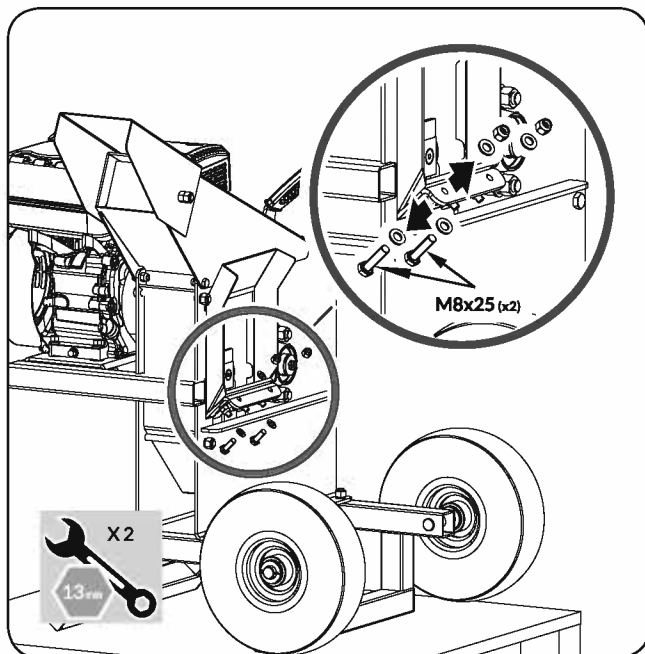

Figure 6
4. Remove the M8X25 bolts, flat washers, and nuts from the machine where the feed hopper will be attached. Set aside for later use. (See **Figure 6**)